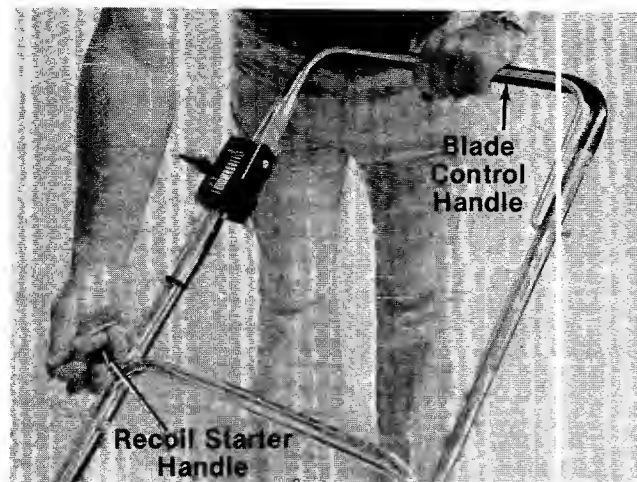

FIGURE 17.
2. Standing behind the unit, depress the blade control handle and hold it against the upper handle as shown in figure 17.